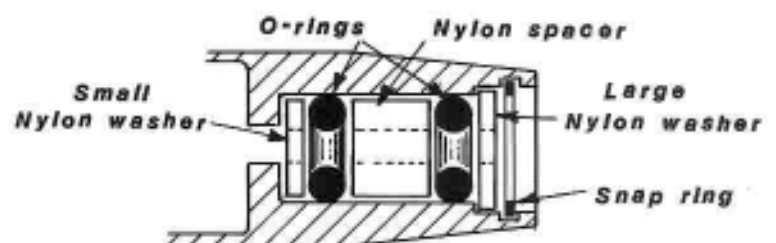

Fig. 122a
-122- Take the number 6452 and install the parts in the end in the order shown (see also Fig. 122a). First, push the small nylon washer in all the way to the stop. Next push in one red "O" ring. Then the nylon spacer, and now the 2nd red "O" ring. Then the large nylon washer. Now install the large inner "C" clip. Start one end of the clip in, hold it down with your finger. Now, with a small screwdriver, push the other end over and in. If you have trouble installing the clip try this other method: Start one end of the clip in and hold it down with your left thumb nail. Now start working your right thumb nail around, pressing the ring into the hole as you go. By the time you get to the other end of the clip it will snap into the groove.